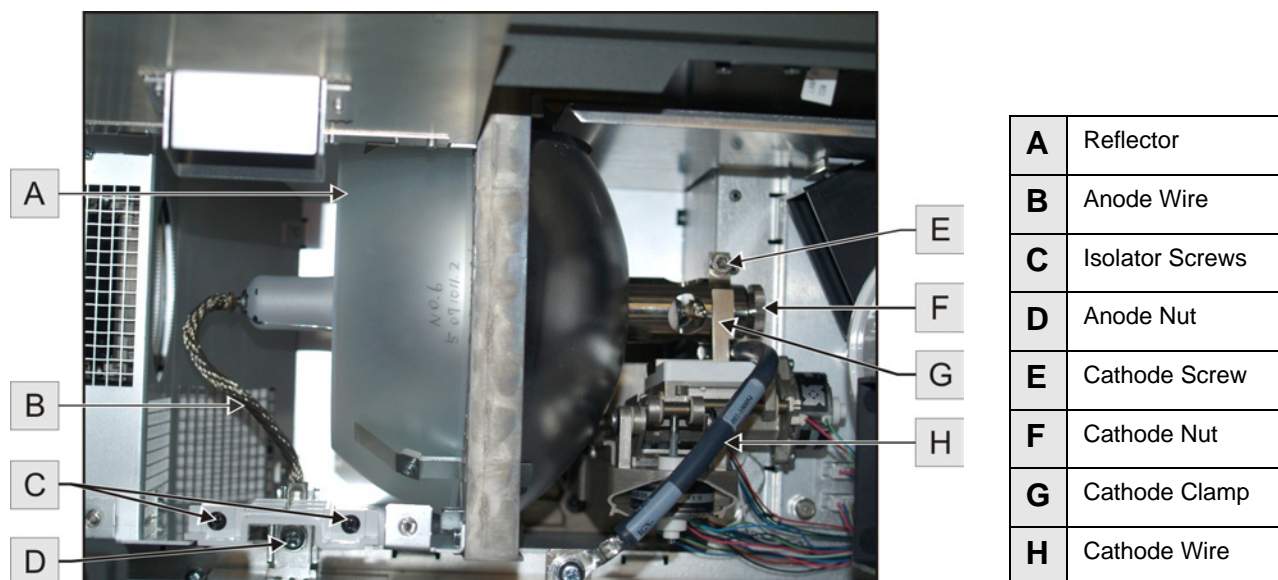

Figure 7-2 Lamp Assembly
- a. Remove the 2 captive screws securing the isolator (**Figure 7-2/C**).
- a. Remove the screw securing the anode wire. (**Figure 7-2/D**).
- b. Loosen the cathode screw (**Figure 7-2/E**) on the rear access nut (**Figure 7-2/F**).
- c. Hold the lamp from the anode end and carefully unscrew and remove the cathode nut (**Figure 7-2/F**).
- d. Tighten the cathode screw (**Figure 7-2/E**) onto the cathode end of the lamp.
- e. Align the ring terminal on the anode wire (**Figure 7-2/B**) with the mounting position (**Figure 7-2/D**), ensuring the crimped side of the wire is facing out. Tighten the anode screw. **NOTE:** Route anode lead away from nearby metal surfaces.